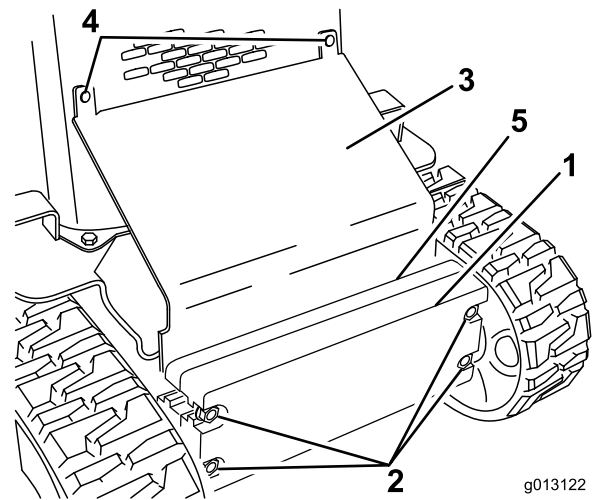

Figure 31
2. Loosen the bolts securing the weights (Figure 31).
3. Remove the carriage bolts and nuts securing the sloped plate (Figure 31).
10. Slide the sloped plate between the frame and the weights and secure it to the front screen grill using the carriage bolts and nuts removed previously (Figure 31).
11. Tighten the bolts securing the front weights (Figure 31).